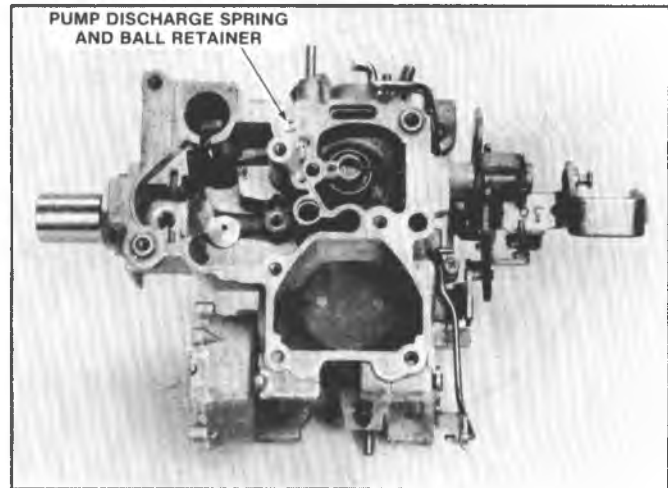

Fig. 6C2-38--Pump Discharge Spring and Ball
8. Install pump discharge steel check ball and spring in passage next to float chamber (Fig. 6C2-38). Insert end of new plastic retainer into end of spring and install retainer in float bowl, tapping lightly in place until top of retainer is flush with bowl casting surface.
10. Install float valve seat assembly, with gasket, using seat installer J-22769 or equivalent (Fig. 6C2-26).